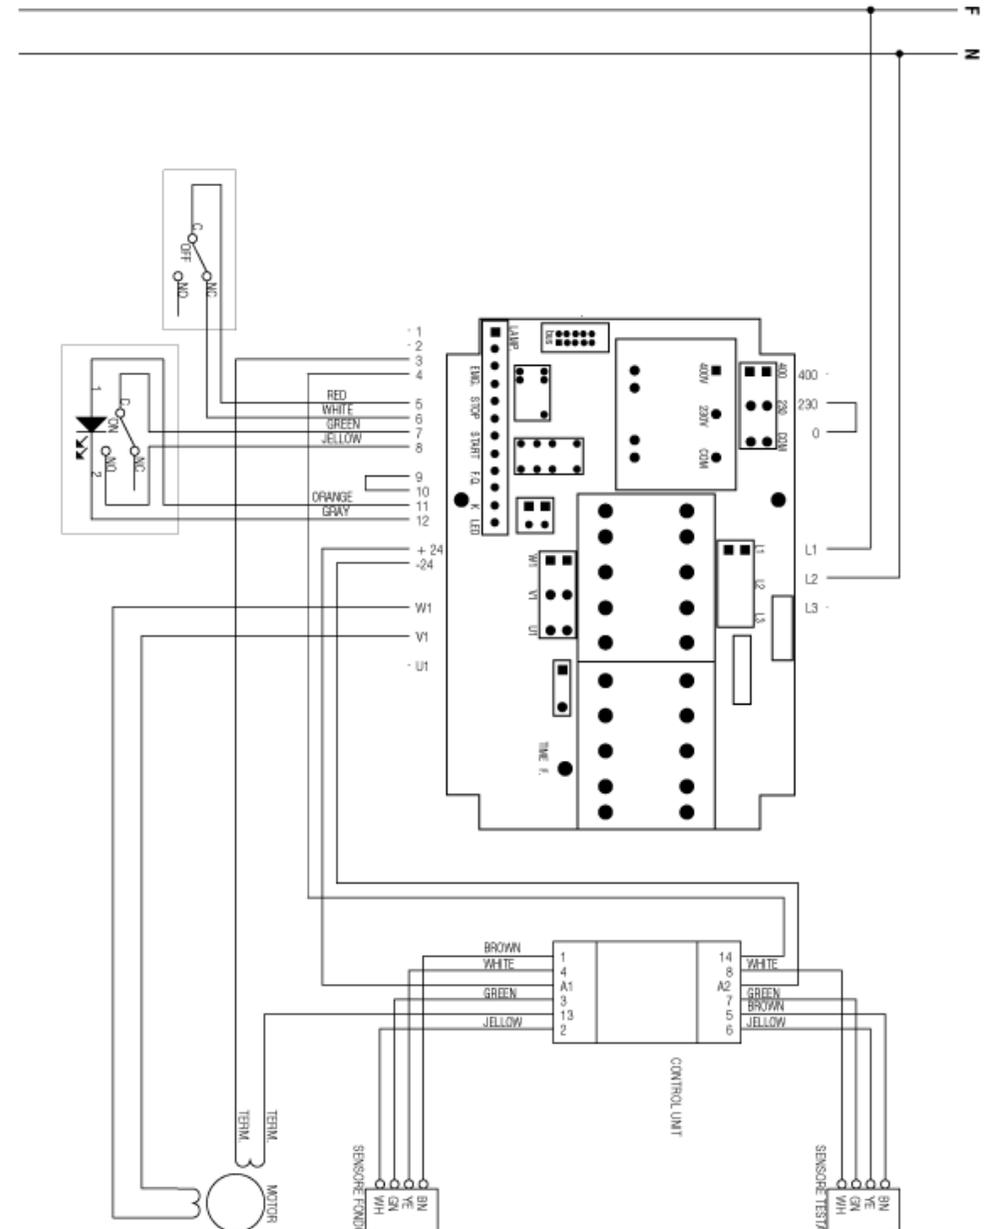

Fig.2.6.2
2.5.2 - Single-phase wiring diagram at 230V (Fig. 2.6.2)